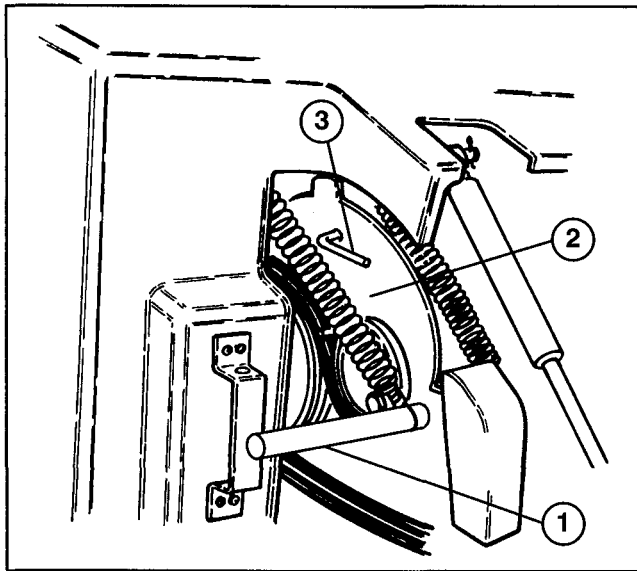

Figure 25
- C. Push down on override lever (Fig. 25) until holes in lever bracket and coring bracket are aligned, then insert pin thru holes.
2. Push down on override lever until holes in lever bracket and coring head are aligned, then insert pin thru holes (Fig. 25).